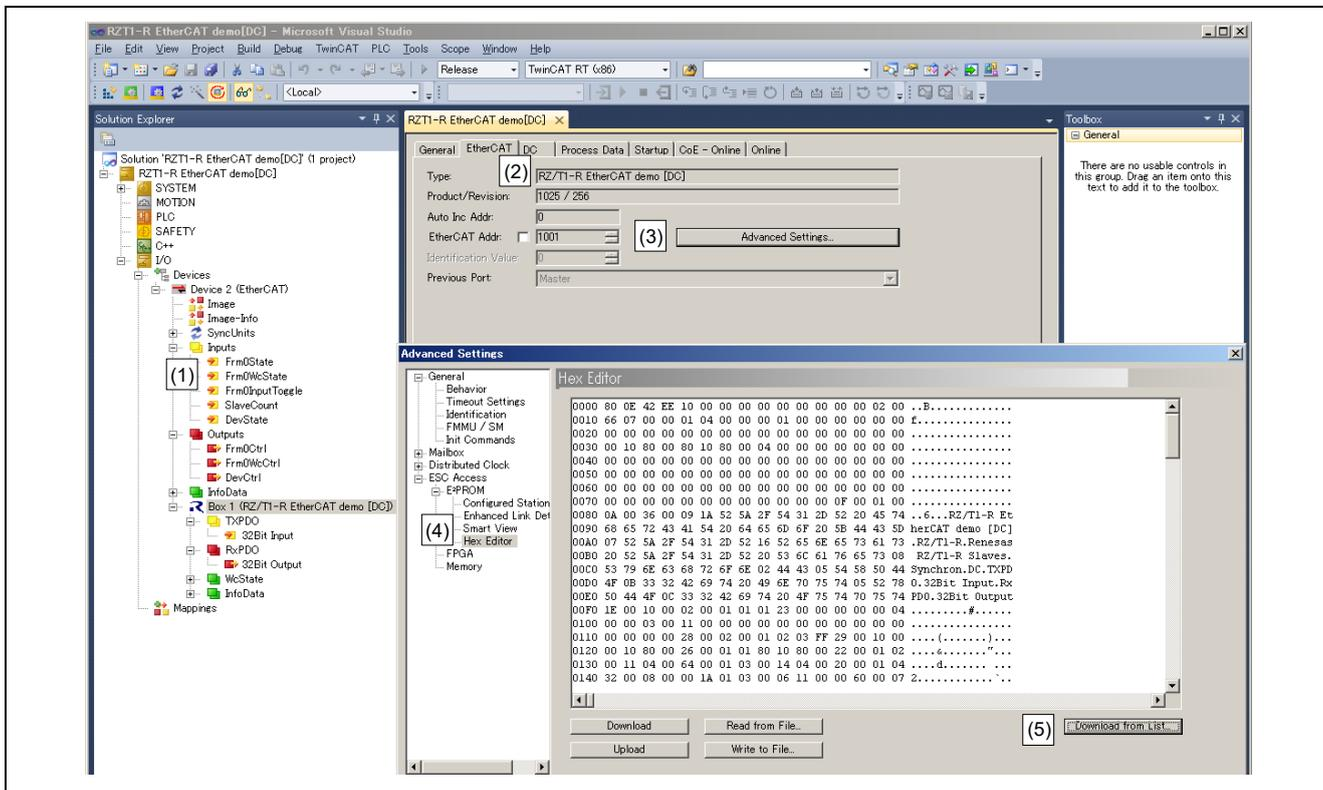

Figure 8.5 Procedure for Replacing the Data on the EEPROM (1)
- (1) Double-click [Box 1] to display a panel on the right side of the window as in Figure 8.5.
- (2) Select the [EtherCAT] tab.
- (3) Click the [Advanced Setting] button.
- (4) Select [ESC Access] > [EEPROM] > [Hex Editor].
- (5) Select [Download from list].
- (6) Select [Available EEPROM Description].